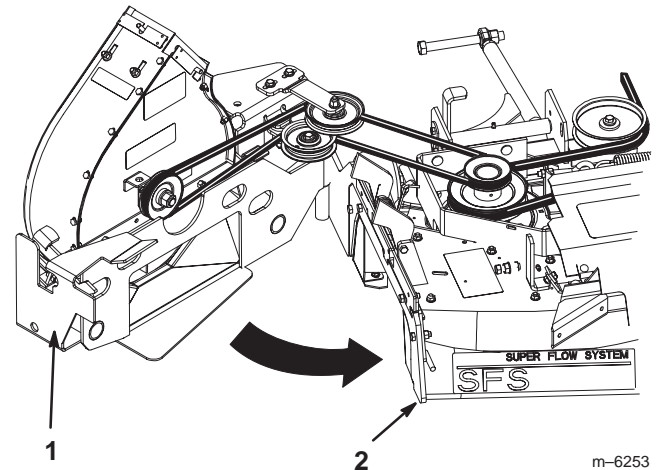

Figure 14
4. Close the blower assembly. (Fig. 14).
6. Close the blower assembly (Fig. 14).
11. Close the blower assembly and ensure the blower front latch engages onto the front peg (Fig. 14).